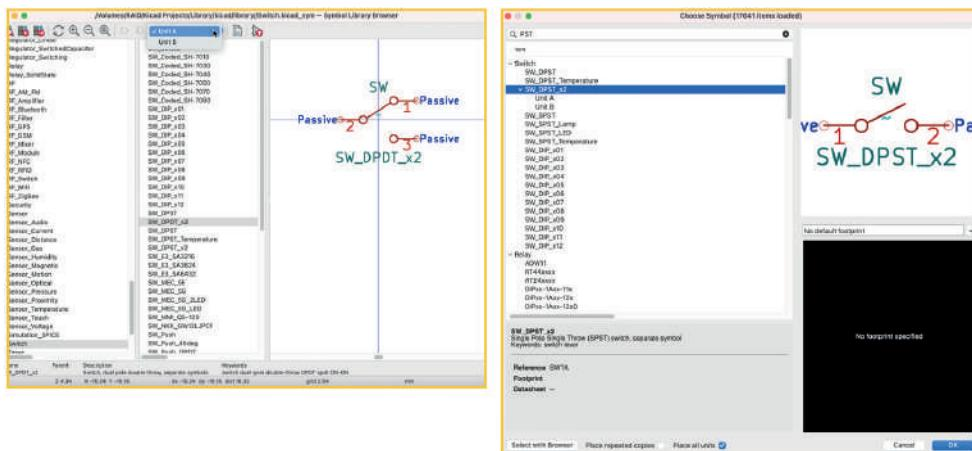

Figure 7.6.3: The Library Browser and the Symbol Chooser.
7. Show the Symbol Library Browser window. This window provides an alternative method to find a symbol. In Figure 7.6.3, you can see a comparison of the two windows showing the same symbol. On the left is the Symbol Library Browser, and on the right is the Symbol Chooser.